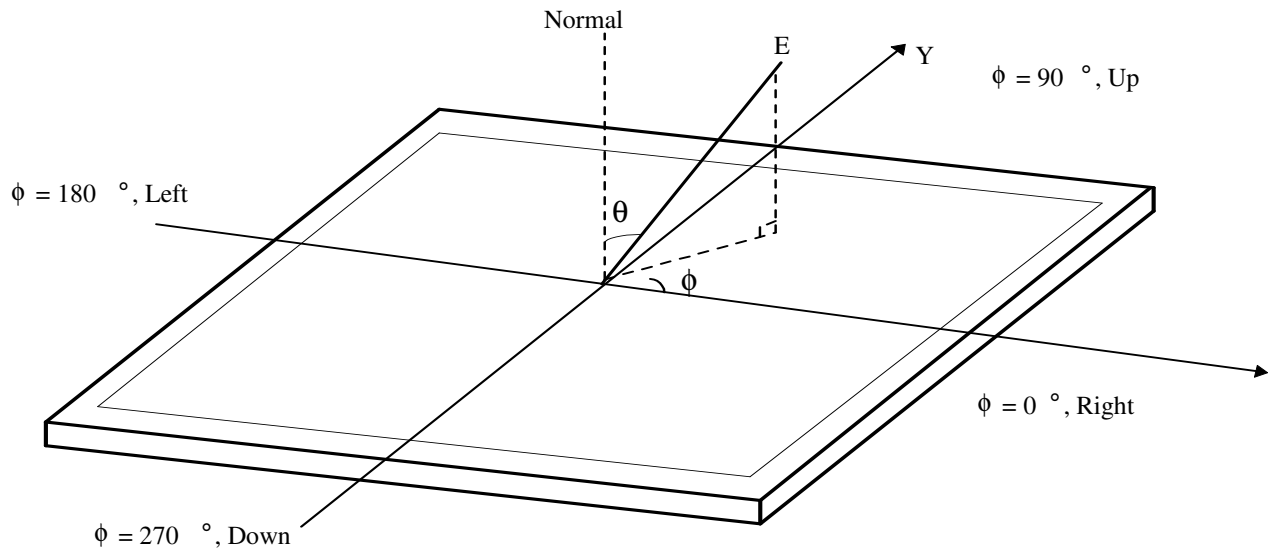

FIG.4 Viewing Angle
5. Viewing angle is the angle at which the contrast ratio is greater than 10. The angles are determined for the horizontal or x axis and the vertical or y axis with respect to the z axis which is normal to the LCD module surface. For more information, see the FIG. 4.